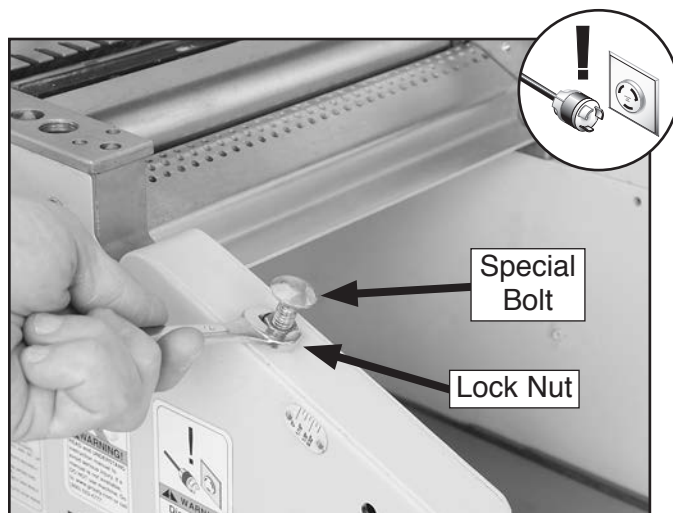

Figure 86. Table lock lever bolt.
4. Loosen the lock nut on the special bolt under the table, as shown in **Figure 86**.